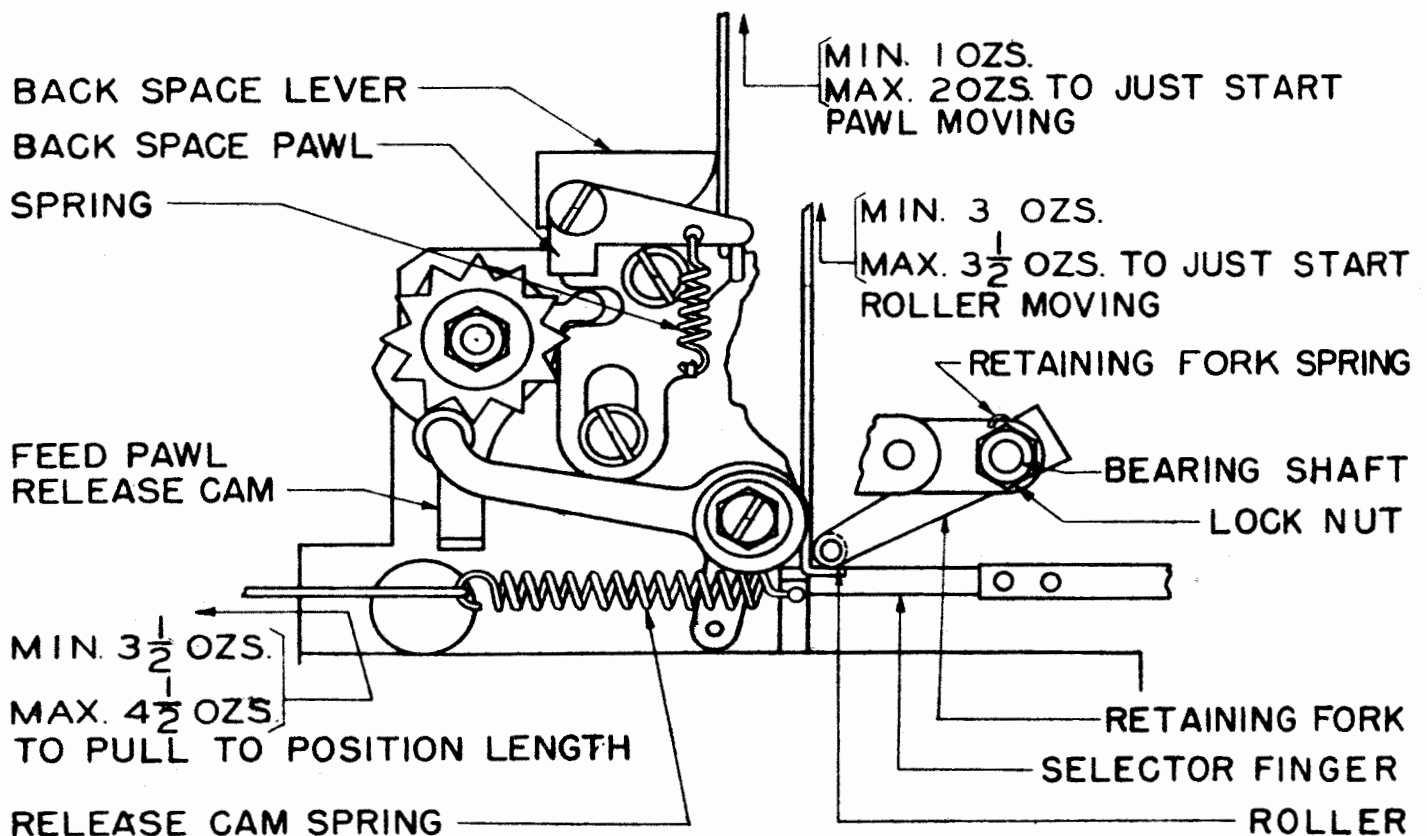

Figure 30
3.09 Selector-finger Retaining-fork Spring on units equipped with a retaining roller should have a tension of minimum 3 ounces, maximum 3-1/2 ounces. See Figure 30.
3.10 Tape-feed-pawl Release-cam Spring on units having feed pawl attached to the armature lever should have a tension of minimum 3-1/2 ounces, maximum 4-1/2 ounces when the backspace lever is in its unoperated position. See Figure 30.
3.11 Backspace-pawl Spring on all units should have a tension of minimum 1 ounce, maximum 2 ounces. See Figure 30.